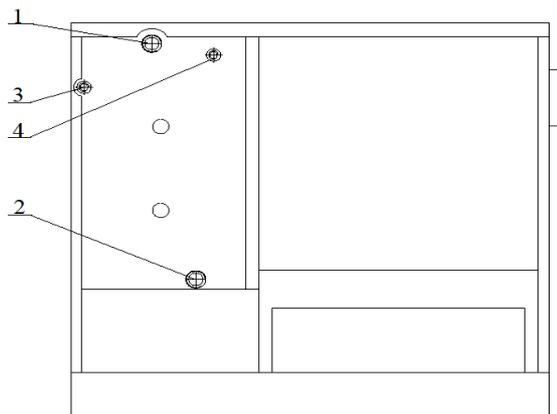
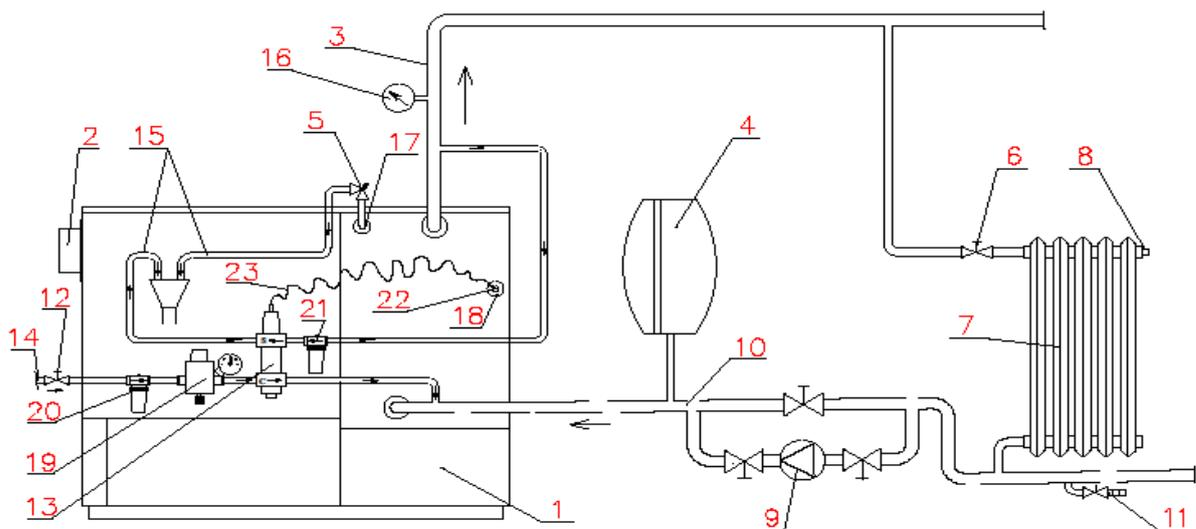
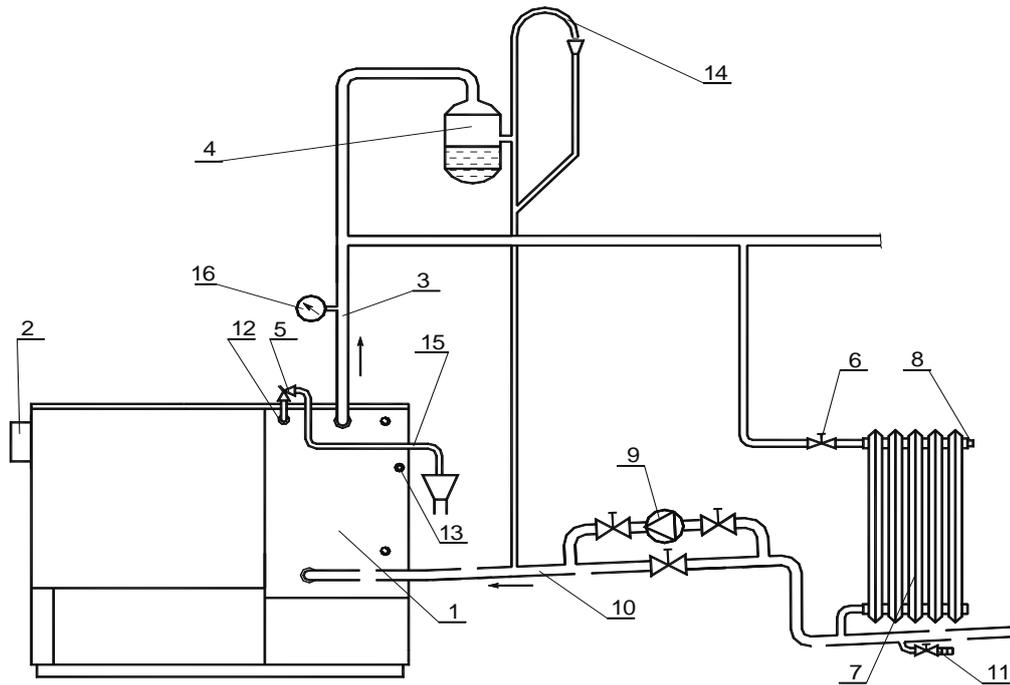

Figure 4
Figure 7
Figure 8
- safety valve (Fig. 7 and 8, Item 5) which MUST be installed on an R1/2" connection (Fig. 4, Item 4.)
It can be installed in closed and open heating system. Adhere to the regulations JUS M.E7.201 and JUS M.E7.202. Diagrams of closed and open system are shown on fig.7 and fig.8.
The back of the boiler and connections are shown in Fig. 4 where:
#### **6.1 DISCHARGE AND RETURN LINE (fig.4 pos.1 and 2 and fig.7 and fig.8 pos.3 and 10)**
1. Thermal valve with built-in thermal protection type 544, 1/2", product Caleffi (Fig. 7a) and Fig. 7, Item 13.
2. Slope pressure regulator with manometer 1/2", the same or similar as shown in Fig. 7b and Fig. 7, Item 19.
3. Filter for cold water at the input of the water supply to the thermal valve, Fig. 7, Item 20
4. Filter for hot - boiling water intake of the boiler and water outlet of thermal valve, Fig. 7, Item 21.
Installation of thermal valve with built-in thermal protection (Fig. 7, Item 13 and Fig. 7a) with additional elements ensuring safe operation, such as pressure regulator (Fig. 7, Item 19 and Fig. 7b). Water filter on the boiler intake (Fig. 7, item 20) and water filter on the boiler outlet in closed central heating system is MANDATORY. This specially refers to a closed system, when the radiators are submerged and where in case of termination of the pump operation for any reason, the water temperature in the boiler rapidly increases and overheating occurs very quickly.
#### **6.2.1 THERMAL VALVE WITH BUILT-IN THERMAL PROTECTION (Fig. 7, Item 13 and Fig. 7a)**
The thermal fuse probe (Fig. 7, Item 22) is best to place in the thermal valve connection (Fig. 7, Item 18). It can be placed on the discharge - distribution pipe (Fig. 7, Item 3) but at a distance from the boiler of 500 mm the most or at the highest point of the boiler before the exhaust pipes.
Fig. 7 shows the thermal valve installation diagram.
### **6.2.2 SLOPE PRESSURE REGULATOR 1/2" WITH MANOMETER (Fig. 7, Item 19 and Fig. 7b)**
When installing the thermal valve it is required to mount the slope pressure regulator as shown in Fig. 7, Item 19. The pressure that is maintained by pressure regulator must be set at a higher pressure than the pressure that is in the heating system. If you do not have a higher water pressure of at least 0.8 bar compared to the pressure in the heating system thermal valve will not work or cannot inject cold water into the boiler that needs to be cooled.
### **6.2.3 WATER FILTER OF THE BOILER INTAKE (Fig. 7, Item 20)**
### **6.2.4 WATER FILTER OF THE BOILER OUTLET (Fig. 7, Item 21)**
### **6.3 SAFETY VALVE (fig. 7 and 8 pos. 5 and fig. 4 pos. 6 )**
On the back side of the boiler under the hob, a connection R1/2" is welded (fig.4 pos.6) in which you are OBLIGED to set a safety valve. The safety valve should be between 2,5 to 3 bar. It can be installed directly on the terminal or at a distance from the stove of 1m the most, provided that there is no block valve between the boiler and the safety valve.